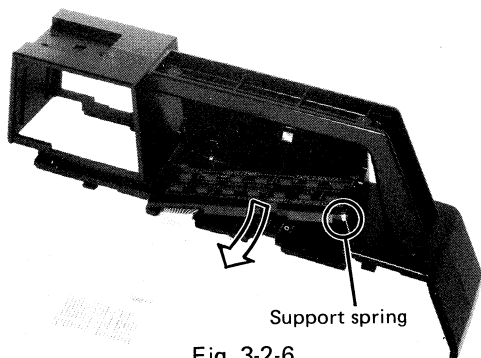

Fig. 3-2-6
- Remove the key board (B) by pulling it outward while keeping it slant. (Fig. 3-2-6)